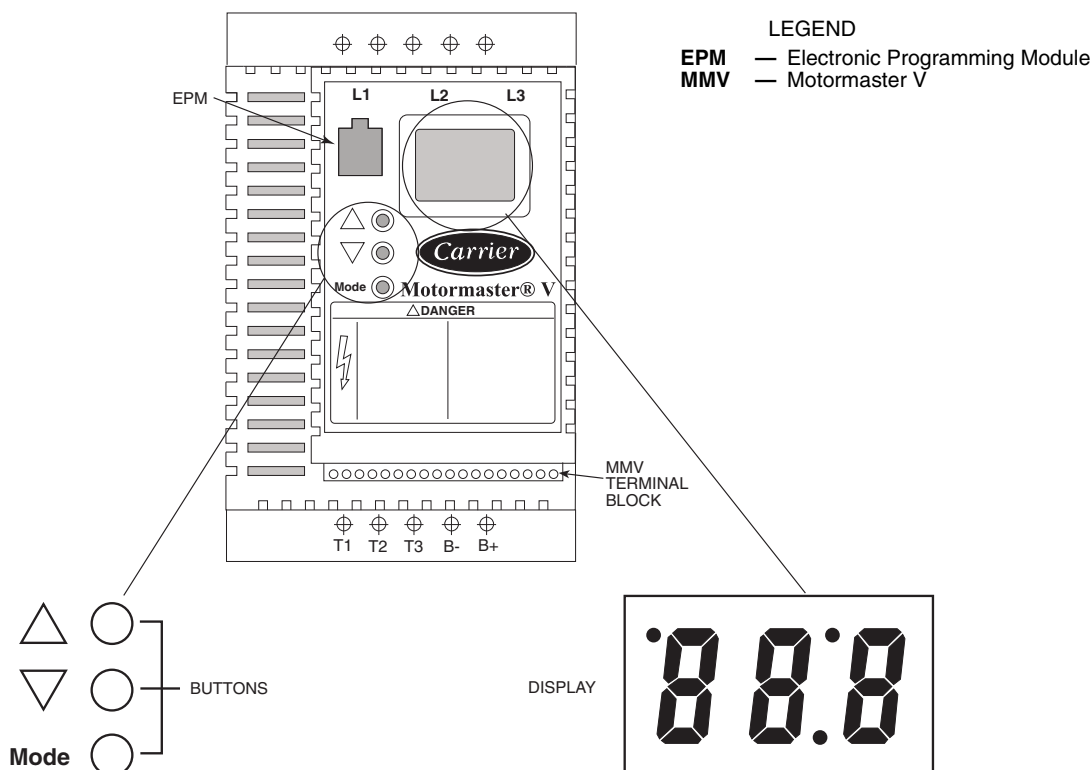

Fig. 59 — Motormaster® V Mode Buttons and Mode Display
CONFIGURATION — The MMV is configured for 1 of 12 operation modes based on the inputs to the control terminal block. The 30RAP units use operating modes 5-8. In these configurations, the MMV follows a 4 to 20 mA speed reference signal present on terminals 25 (+) and 2 (-). The Aux board generates a 2 to 10 vdc signal that is converted to a 4 to 20 mA signal by means of a 240 Ω 1/4 w resistor in series with the positive (+) signal wire. One additional jumper is required to configure the drive for 50/60 Hz operation and input voltage. See Table 41 for proper inputs. Once the drive is powered, it will change to the mode selected according to the inputs. See Fig. 59.
1. To enter the PROGRAM mode to access the parameters, press the Mode button. This will activate the password prompt (if the password has not been disabled). The display will read "00" and the upper right-hand decimal point will be blinking. See Fig. 59.
The drive uses an electronic programming module (EPM) chip to store the program parameters. This is an EPROM memory chip and is accessible from the front of the Motormaster V. It should not be removed with power applied to the VFD. See Fig. 59.